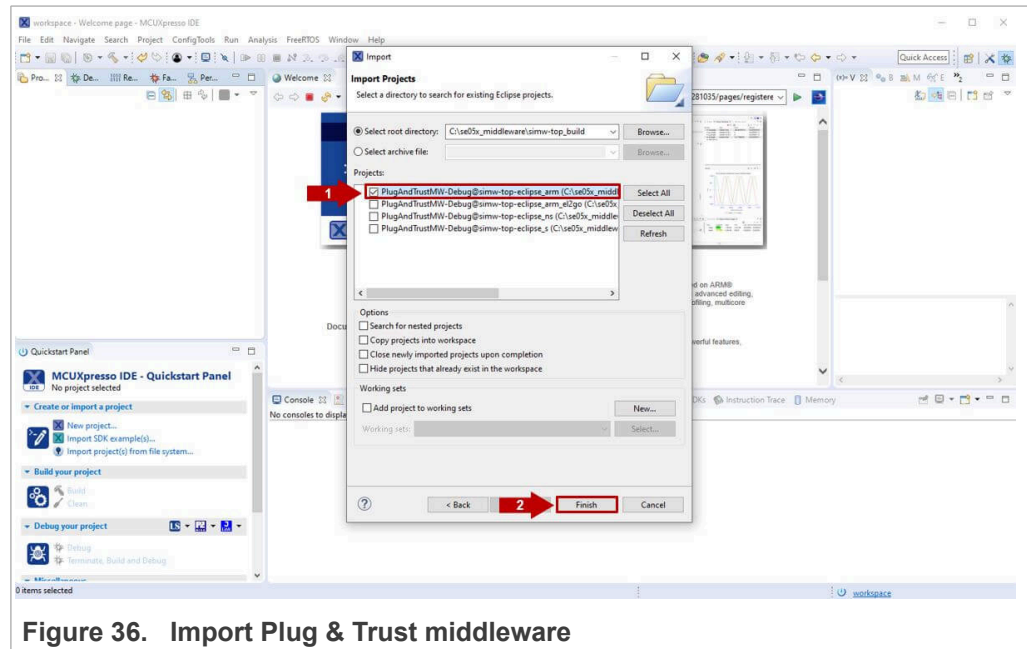

Figure 36. Import Plug & Trust middleware
4. After selecting *C:\se05x_middleware\simw-top_build* folder, a project called *PlugAndTrustMW-Debug@simw-top-eclipse_arm* should be visible in the *Projects* area. (1) Select the project and (2) click on the *Finish* button to import this project into your workspace as shown in Figure 36: